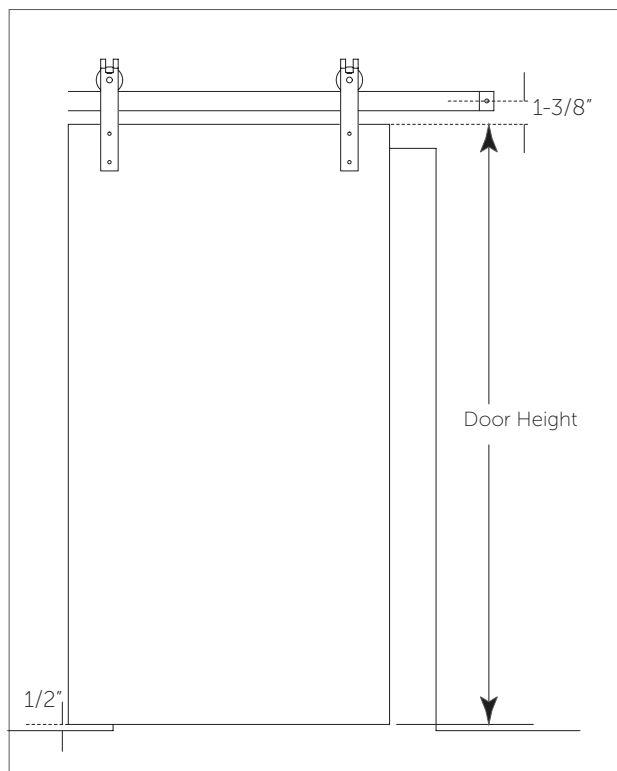

Figure 1
1. To determine where the track should be installed, first measure the height of the door, then add 1-7/8" to the door length. 1/2" will be for the clearance between the bottom edge of the door and the floor. 1-3/8" will be from the top edge of the door to the center of the track. (Figure 1).